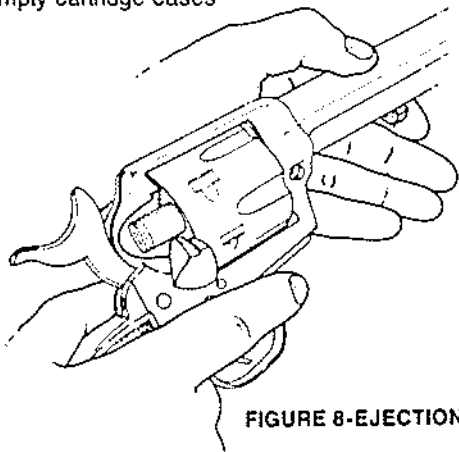

FIGURE 8-EJECTION
4. **KEEPING FINGERS AWAY FROM TRIGGER**, align chamber as shown in Figure 8 and push ejector rod, (located under the barrel) backwards through cylinder chamber, forcing out the live round or empty case, which should be removed from revolver. Allow ejector rod to return forward under its spring action.
4. **KEEP FINGERS AWAY FROM TRIGGER**, align chamber as shown in Figure 8, tilt revolver muzzle up and remove cartridge as it slides back out of the chamber.